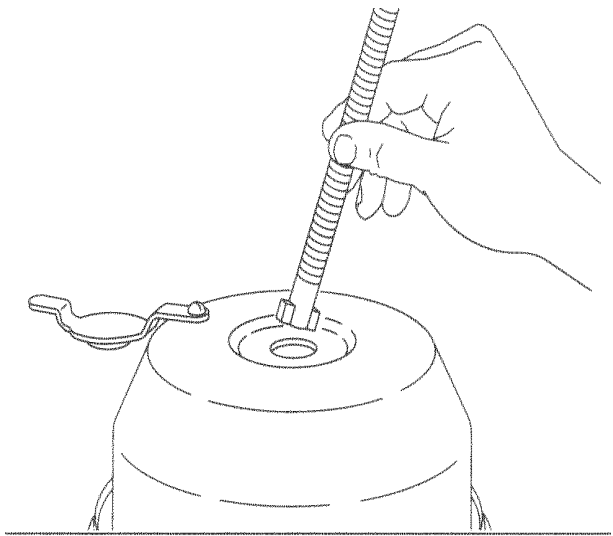

Fig. 4, Insert the Release Bolt
- 3.2 Insert the release bolt into the center-hole in the chamber head (see Fig. 4). Continue to insert the bolt until it bottoms out into the hole in the pressure plate inside the chamber.